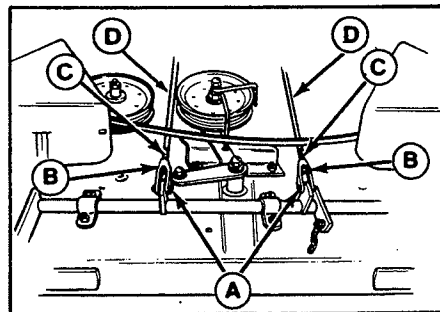

Figure 39. Turnbuckles
- If adjustment is needed, remove the two pins (A, figure 39) by removing the cotter pins. Loosen the jam nuts (C).